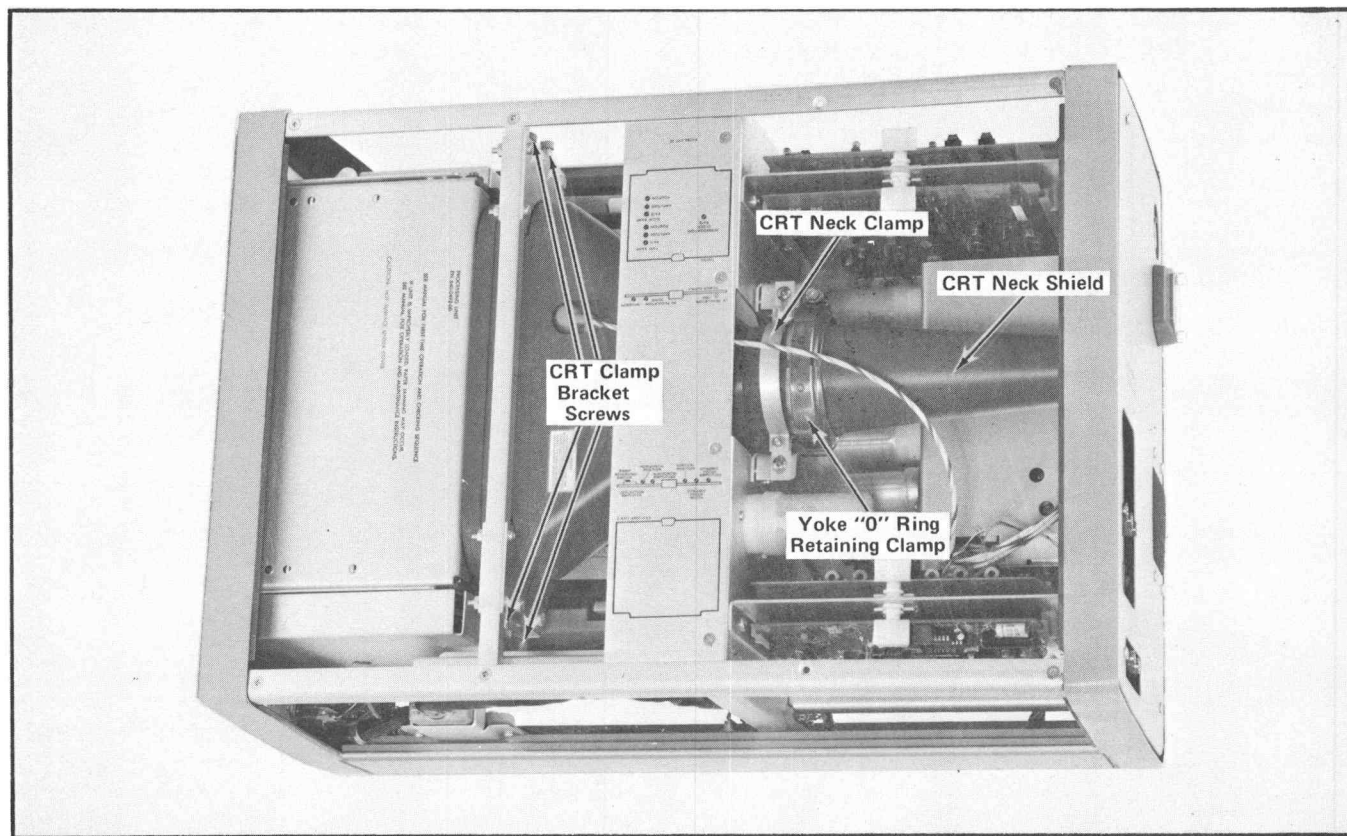

Fig. 5-8. Illustration showing location of CRT alignment adjustments.
- d. ADJUST—Using the four CRT clamp bracket screws, (see Fig. 5-8) mechanically adjust the CRT until it is parallel to a top flat surface on the processor, and the CRT is mechanically centered in the CRT shield opening.
g. ADJUST—Trace alignment by loosening the yoke "O" ring retaining clamp and rotating the CRT neck shield assembly (see Fig. 5-8) until the trace is parallel to the top flat surface of the processor. Make sure the CRT neck shield is as far forward as possible and tighten the yoke "O" ring retaining clamp when adjustment has been completed.